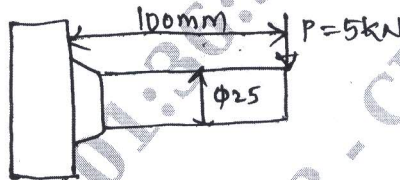

Fig.Q8(b)
- b. A solid circular shaft 25mm in diameter is welded to a support by means of a fillet weld as shown in Fig.Q8(b). Determine the Leg dimensions of the weld, if the permissible shear stress is 95 N/mm^2 .